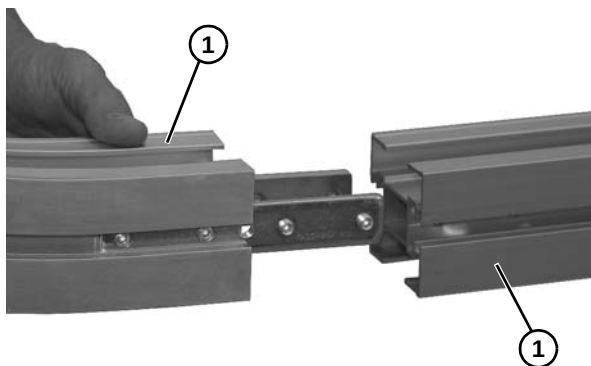

Figure 5
Be sure all frame sections (**Figure 5, item 1**) are properly supported during knuckle assembly.